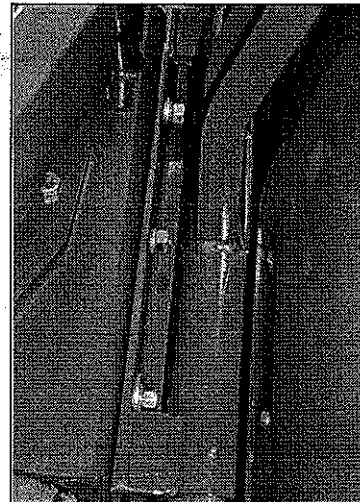

figure 6
10. Align slots in the mounting assembly's rear plate and the brush head's frame plate. Secure with 3 carriage bolts, flat washers, lock washers and nuts. Figure 6 shows hardware fully installed.